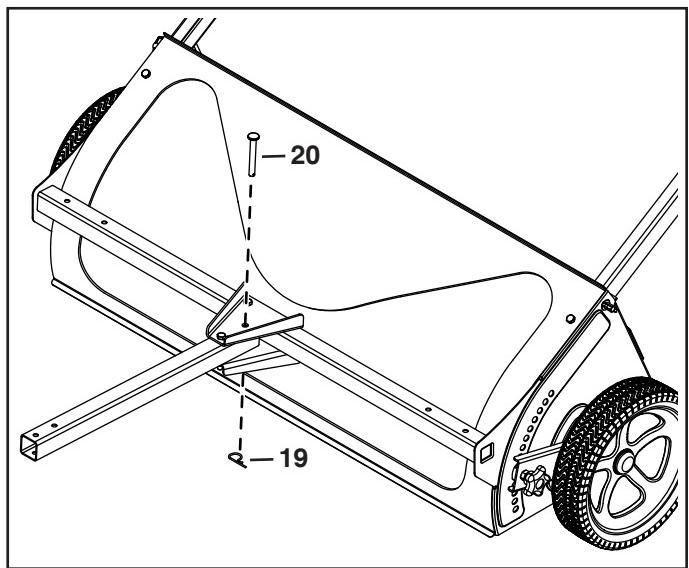

FIGURE 5
6. Lock the drawbar into position by inserting a 3/8" x 3" hitch pin (20) into the center hole and securing it with a 3/32" cotter pin (19). See figure 5